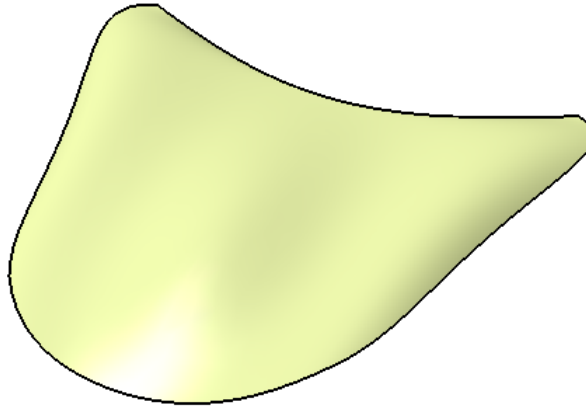

Figure 18-68 Final model of the Car bonnet
6. Choose **OK** from the **Control Points** dialog box and hide the curve and the datum plane. The final model of the car bonnet is displayed, as shown in Figure 18-68.